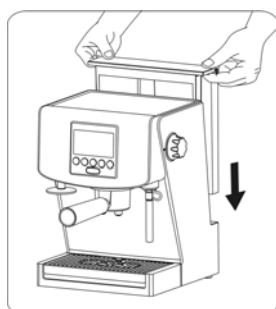

Fig. 14
- 18.24. Place the espresso machine upside-down and screw down the grid to the filter head (4) by means of a fitting screwdriver (Fig. 14).